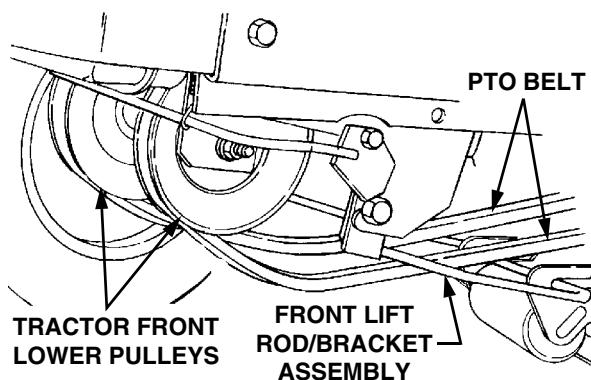

Figure 37
- Pass the PTO belt downward, inside the tractor frame, until the belt is below the two tractor front lower pulleys and pull the belt clear of the tractor (See Figure 37).